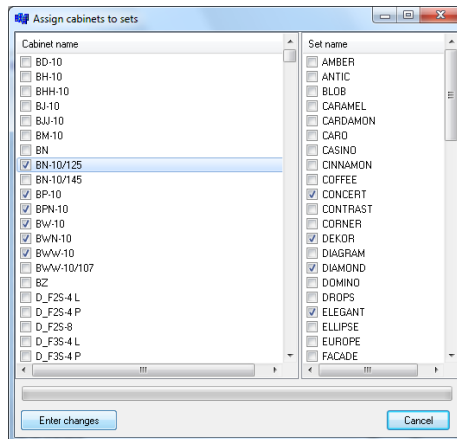

Fig. 158 – assigning cabinet to sets
- **Quick assignments** - it assigns the selected cupboards to the indicated sets (Fig. 158); after entering assignments press the **Enter changes** button in order to confirm modifications,